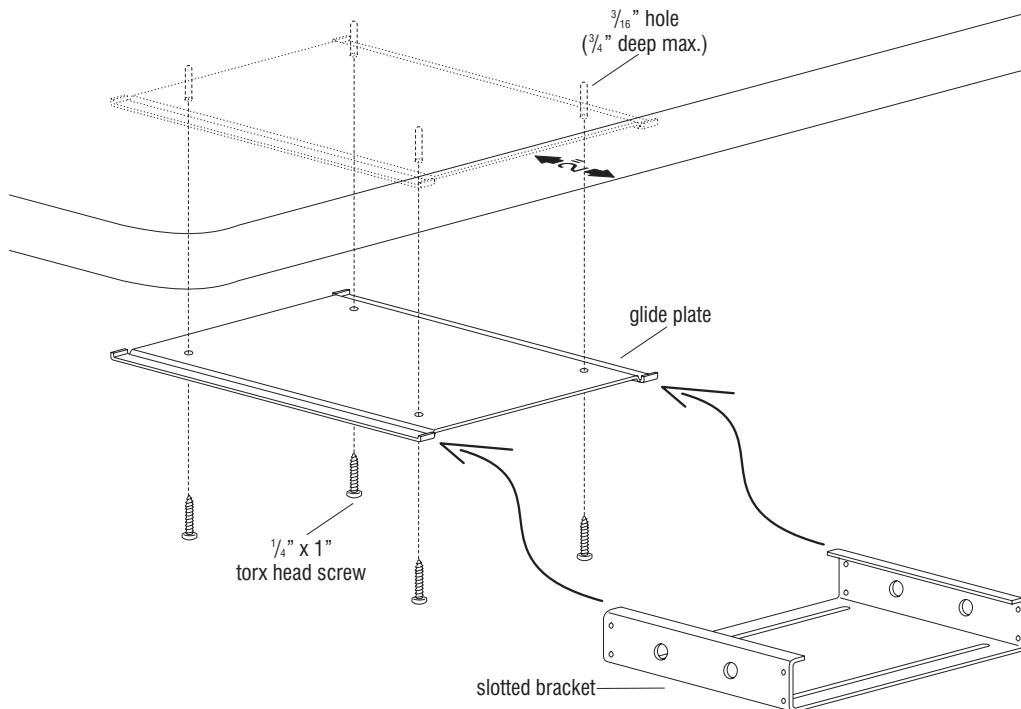

Figure 1
1. Position the glide plate under the worksurface. Be sure that the glide plate is parallel and placed 2" from the front edge of the worksurface (1" on 24" deep worksurfaces). Mark the four mounting holes through the plate onto the underside of the worksurface (Figure 1).